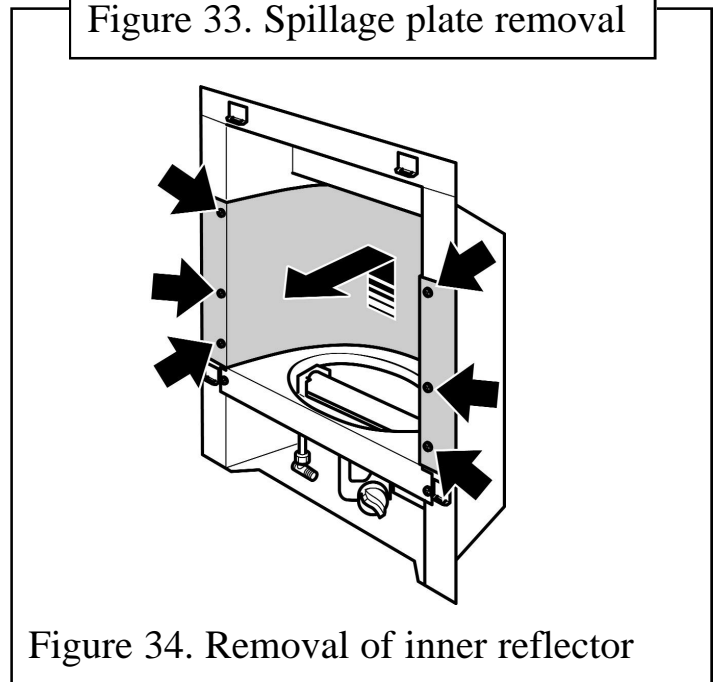

Figure 34. Removal of inner reflector
4. Remove the six screws from the side of the inner reflector (See figure 34).